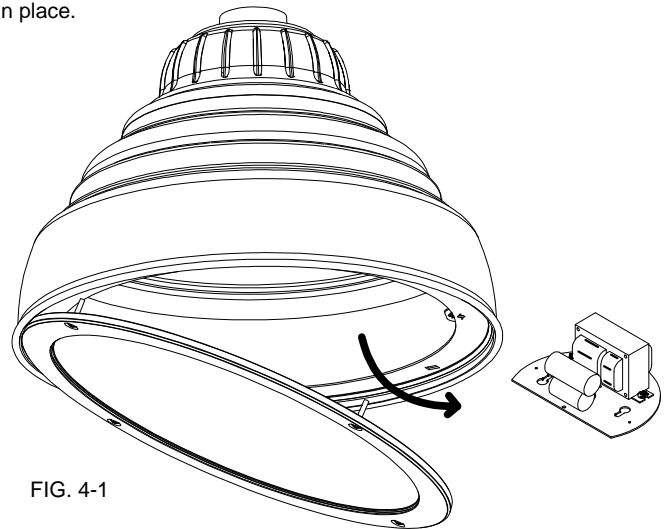

FIG. 4-1
3. Remove all ballast components from ballast assembly. (FIG. 4-1)